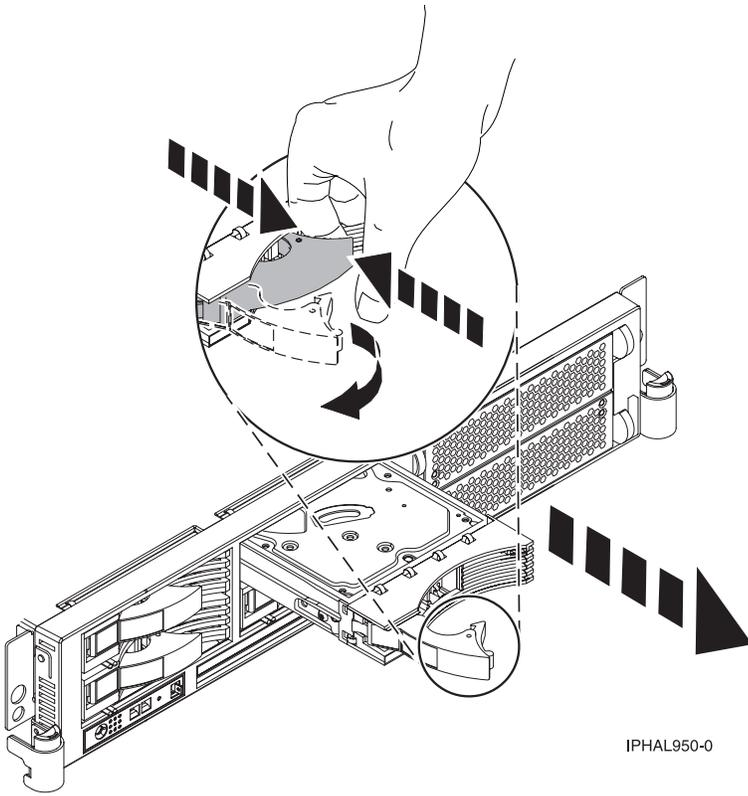

Figure 69. Removing a disk drive from a model 51x or 710
8. Squeeze and pull the handle of the disk drive out toward you before you remove the disk drive, as shown in Figure 69 on page 74 or Figure 70 on page 74. If the handle is not all the way out, the disk drive can not slide out of the system or expansion unit.